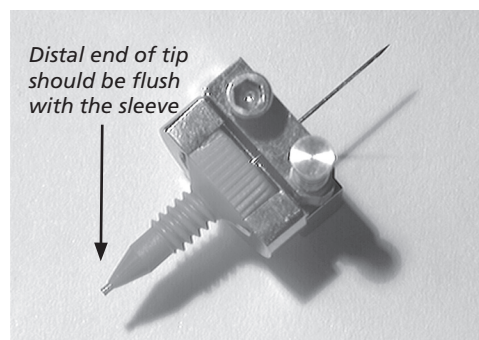

Figure 25
10. When properly fitted removal of the fitting would reveal the PicoTip to be flush with the PEEK™ sleeve. Both the PicoTip and sleeve should protrude from the end of the fitting (Figure 25).